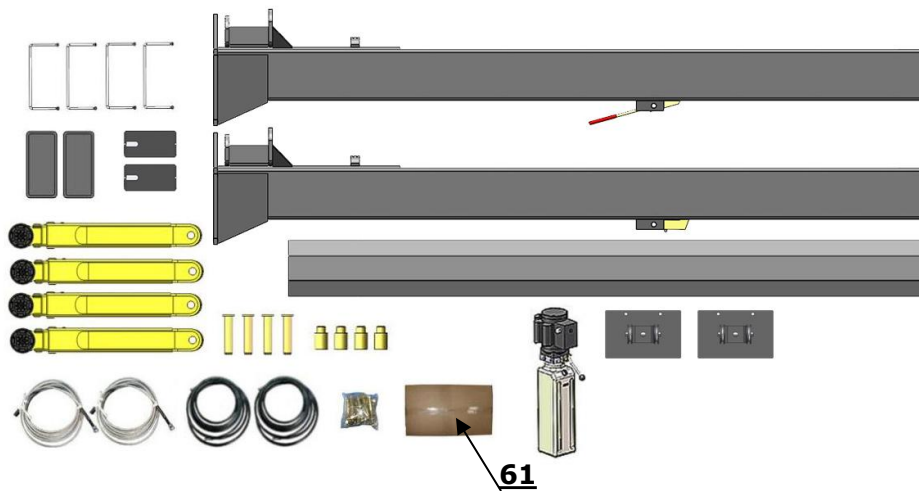

Fig. 11
4. Move aside the parts and check the parts according to the shipment parts list (See Fig. 11, 12).